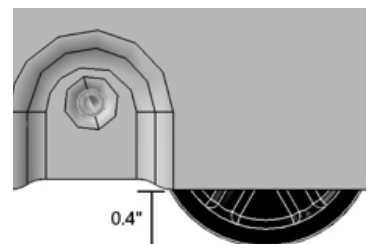

Fig. 7
- d. Attach remaining 3 Leveler Assemblies as described in the previous 3 steps using the remaining six 4H bolts and the remaining three 5H bolts. With the unit(s) still on their backs, adjust all leveling wheels to approximately the orientation in Fig. 7.